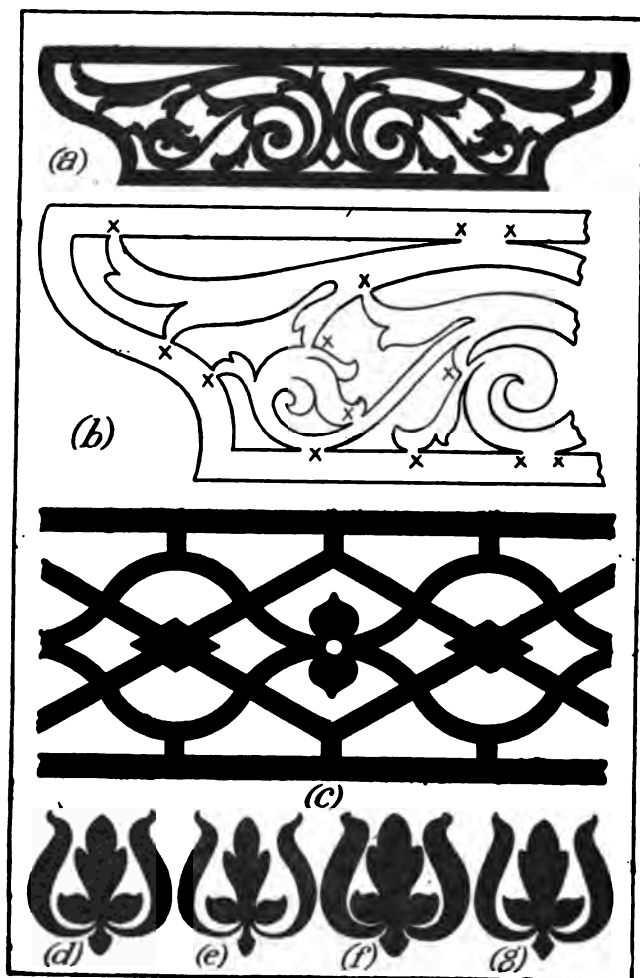

Fig. 140.—(a, b) Ties. (c) Intersections. (d) Leaf form.
together by "ties." But the difference between the two ornaments is that, while the *cut-out* part of a stencil represents the design, the fret pattern is the solid wood. Thus, while a stencil tie separates the finished ornament into many parts, the fretwork tie binds the whole ornament together. The importance of ties should always be borne in mind when cutting. On good designs they are never obtrusive, but they should be adequate for strength. At Fig. 140, *a*, is shown a small fret the ties of which are quite natural. At *b* is shown the enlarged detail of an end. When the tie corners lettered X are approached, there are three points to watch: (1) As the tie is there only for strength, the eye must carefully watch what is beyond; (2) the saw must not run too far into the corner, or the tie will be weakened; (3) the tie must not be left too thick or it will appear clumsy.
Intersecting.—Ties often take the form of intersecting lines, as Fig. 140, *c*. Geometrical forms are troublesome, not so much because the lines are specially difficult to follow, but because mistakes are more readily detected. In the case of Fig. 140, *c*, the ties (or intersections) are all part of the ornament, and accuracy and strength alike are secured by observing and following the continuity of line. Long, straight lines are usually broken by several ties, and when a tie corner is approached the eye must be kept on the line beyond.